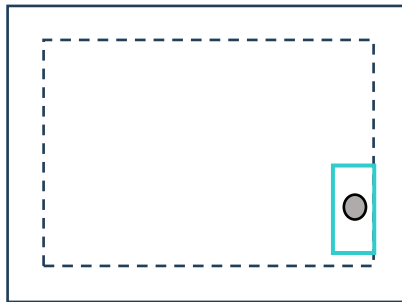

Figure 8 - AC power-in cables routed out of concrete within charger's footprint marks on ground
2. Route AC power-in conduit / cable up through concrete pad or driveway within pre-marked rectangles of charger's footprint (Figure 8), leaving sufficient cable length to route cable up front-right corner of mounted charger.